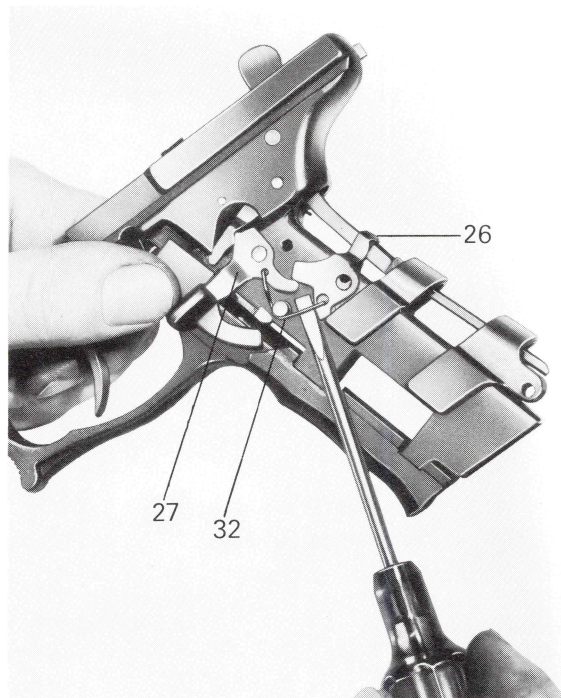

Fig. 20
- Lift off the elbow spring (32), and remove angle lever (26), cocking lever (27) and the intermediate lever (30) (Fig. 20).